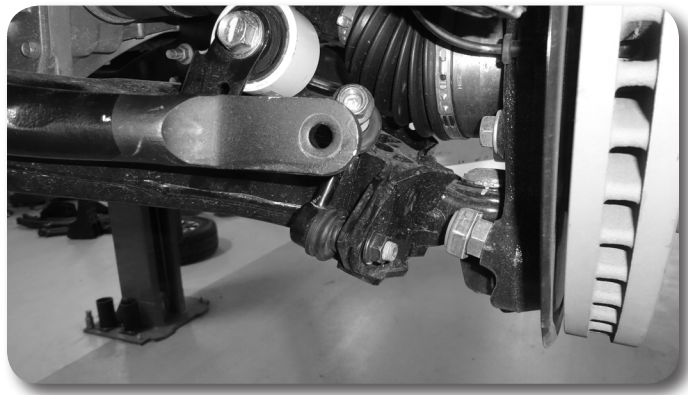

Figure 1
4. Disconnect the sway bar links from the lower control arms **Figure 1**. Save hardware.